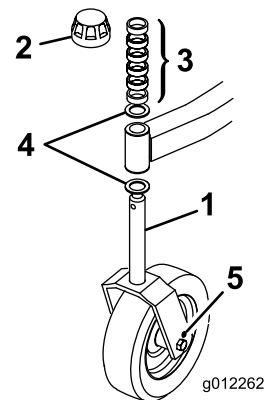
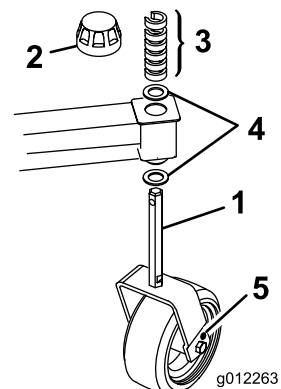

Figure 11
Figure 12
2. Drill out the 0.438 inch diameter holes (Figure 11 & Figure 12) in each side of the castor forks to 0.50 inch or 0.516 inch diameter.
1. Remove the tensioning cap from the spindle shaft and slide the spindle out of the front castor arm. Remove the washer from the spindle shaft. Slide the spacers onto the spindle shaft to get desired the height-of-cut, then slide the washer onto the shaft (Figure 11).
2. Push the castor spindle through the front castor arm, install the other thrust washer and remaining spacers onto the spindle, and install the tensioning cap to secure the assembly (Figure 11).
1. Remove the tensioning cap from the spindle shaft (Figure 12).
2. Remove or add the C-shaped spacers at the narrow portion of the spindle shaft, below the castor arm, to get the desired height-of-cut (Figure 12). Make sure that the thrust washers-not the spacers-contact the top and bottom of the castor arm.
3. Install the tensioning cap to secure the assembly (Figure 12).